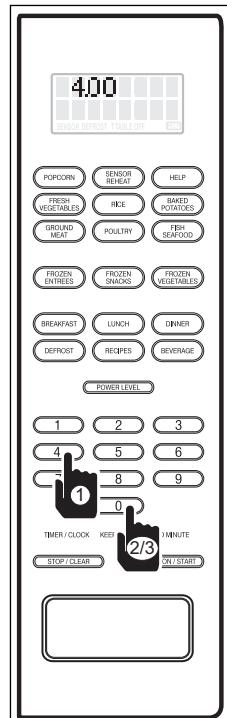

Figure 3-53.
5. Enter desired cooking (or defrost, or keep warm) time duration. For example: 4 minutes; press the number 4 key, then the number 0 key twice (See Figure 3-53), and the display will flash "4.00 - PRESS START - OR PRESS - POWER LEVEL".